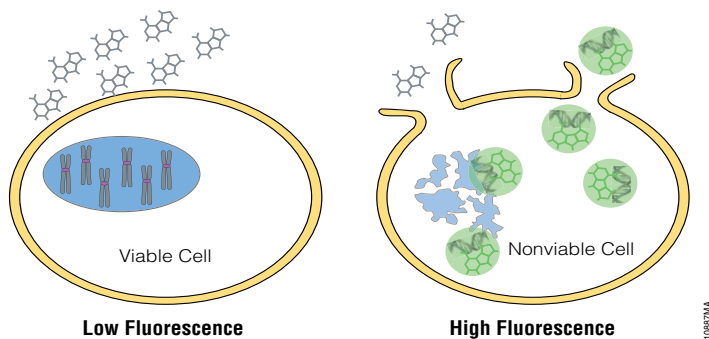

Figure 1. CellTox™ Green Dye binds DNA of cells with impaired membrane integrity.
The CellTox™ Green Cytotoxicity Assay^(a) measures changes in membrane integrity that occur as a result of cell death. The assay is intended for assessing cytotoxicity in cell culture after experimental manipulation and can be used with cells grown in monolayer, suspension or 3D models. The assay system uses a proprietary asymmetric cyanine dye (1) that is excluded from viable cells but preferentially stains the dead cells' DNA (Figure 1). When the dye binds DNA in compromised cells, the dye's fluorescent properties are substantially enhanced. Viable cells produce no appreciable increases in fluorescence. Therefore, the fluorescent signal produced by the dye binding to the dead-cell DNA is proportional to cytotoxicity (Figure 2).